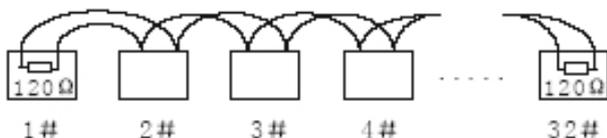

Fig 2
2.2  $120\Omega$  terminal resistance is connected as shown in fig 2.